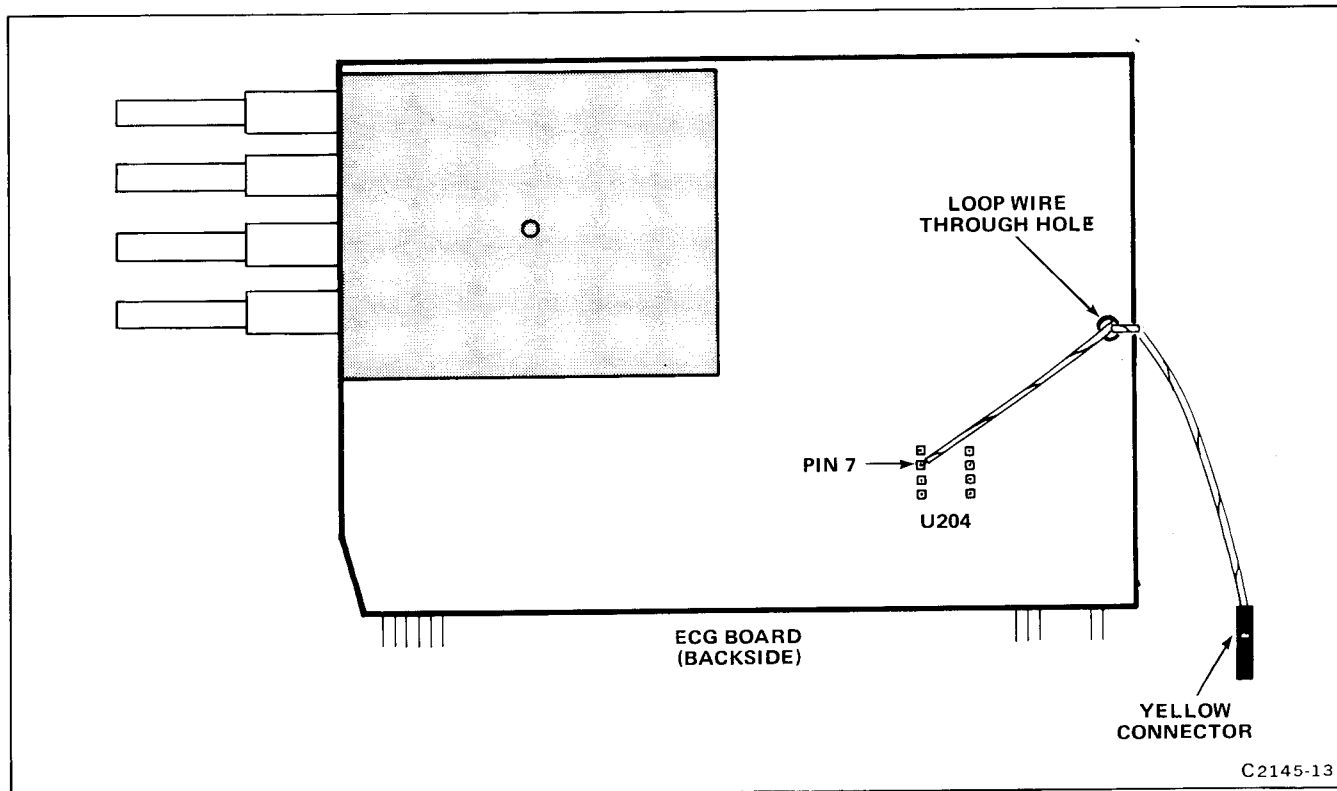

Figure 1-8. Adding wire to 414 ECG board.
10. Install white-yellow wire (with yellow connector) on ECG board as shown in Figure 1-8.